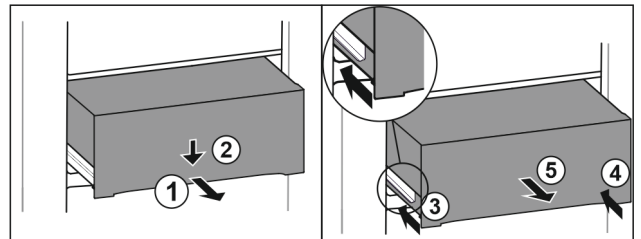

Fig. 213
- ▶ Pull out drawer half-way. Fig. 213 (1)
- ▶ Push the drawer down at the front. Fig. 213 (2)
- ▶ Push the left rail in by about 2 cm. Fig. 213 (3)
- ▶ Push the right rail in by about 2 cm. Fig. 213 (4)
- ▶ Remove drawer to the front. Fig. 213 (5)